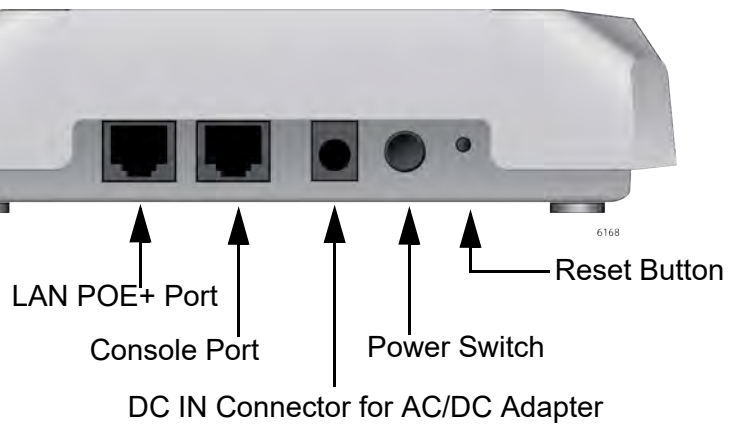

Figure 4. Back Edge View
The back edge view is illustrated in Figure 4.
- Power Switch** The Power Switch on the back panel in Figure 4 on page 24 turns On or OFF the access point when power is supplied to the access point only from the AC adapter, not from the PoE LAN port.
- Reset Button** The access point has a Reset button on the back edge in Figure 4 on page 24 for returning the parameter settings of the device to their default values. You might reset the access point if you want to discard its current configuration or if you forgot the manager password and so cannot manage the device.